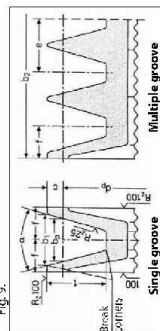
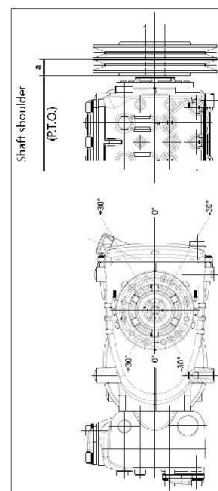

Fig. 8
Fig. 9
- In the absence of directions, follow Fig. 8 and the table in Fig. 9.
- e) Follow the direction of the belt pull as shown in Fig. 9 for other needs, contact our **Technical or Customer Service Departments**.